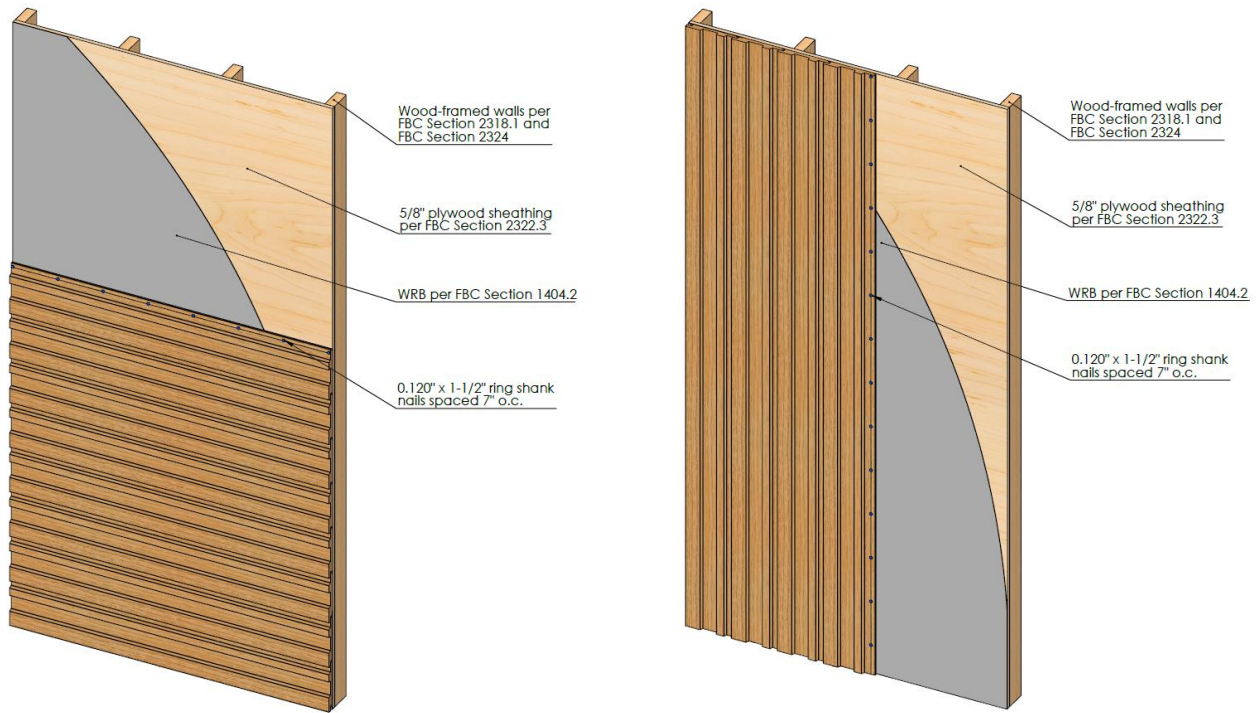

Figure 2. Millboard Composite Siding – Direct Connection
- Millboard Composite Siding products shall be fastened directly onto the WRB-overlaid 5/8" thick plywood using the specified fastener and the specified fastener spacing along the board. See **Figure 2** as an example (wood studs shown).